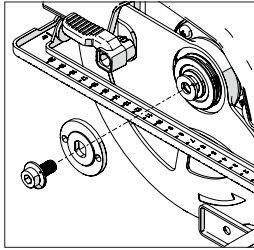

Fig. 4
- Using the Hex Key, loosen and remove the arbor socket headed screw, associated fixings, and outer blade drive flange. **(Fig. 4)**